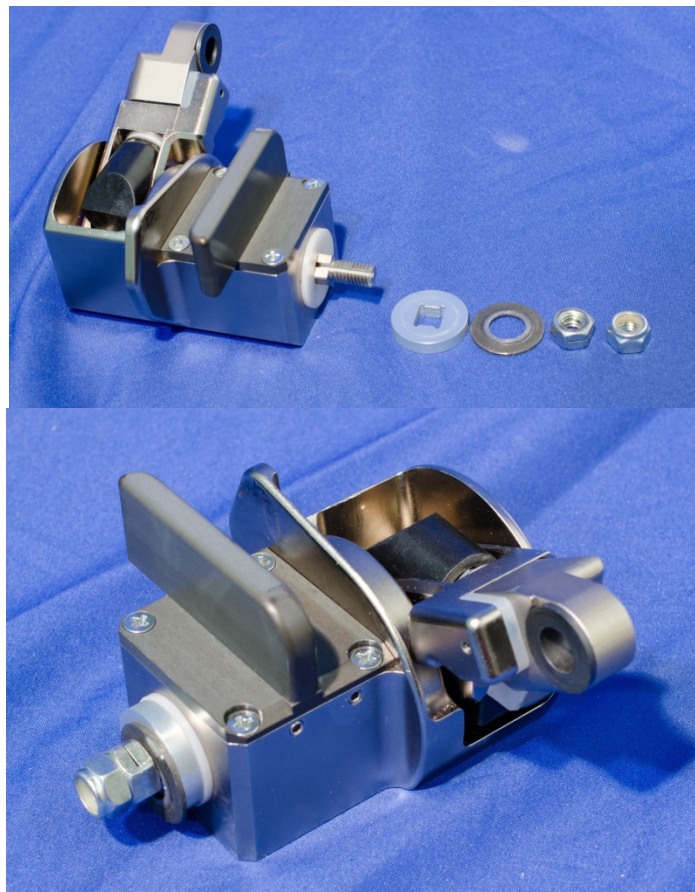

Figure 7-13. Install washers and nut for shoulder
- 7.2.2.7 Install Lower Spring Housing Washer (472-3825), Washer (472-3826), shaft washers and nuts (Figure 7-13).